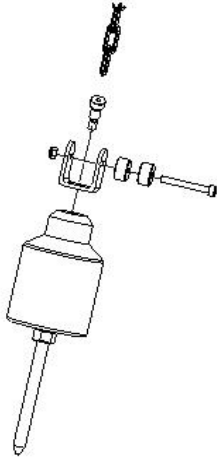

Fig.8
- Regular type and claw type sensing weights: Follow the instruction below to assemble the sensing weights(Fig.8 & Fig.9)